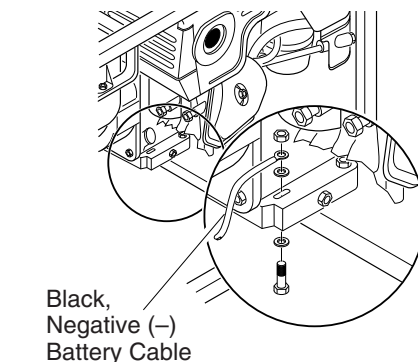

Figure 9 - Connecting Black, Negative (-) Battery Cable to Engine Block (Model MGH7000C Shown)
2. Attach the black, negative (–) battery cable to the engine block. Use the bolt, nut, and two washers provided with the battery cables. Use long mounting hole on opposite side of engine from starter solenoid. Attach cable as shown in Figure 9.